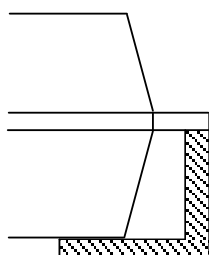

Figure 1
- Soldering must be performed in the shaded area as shown in Figure 1 below.